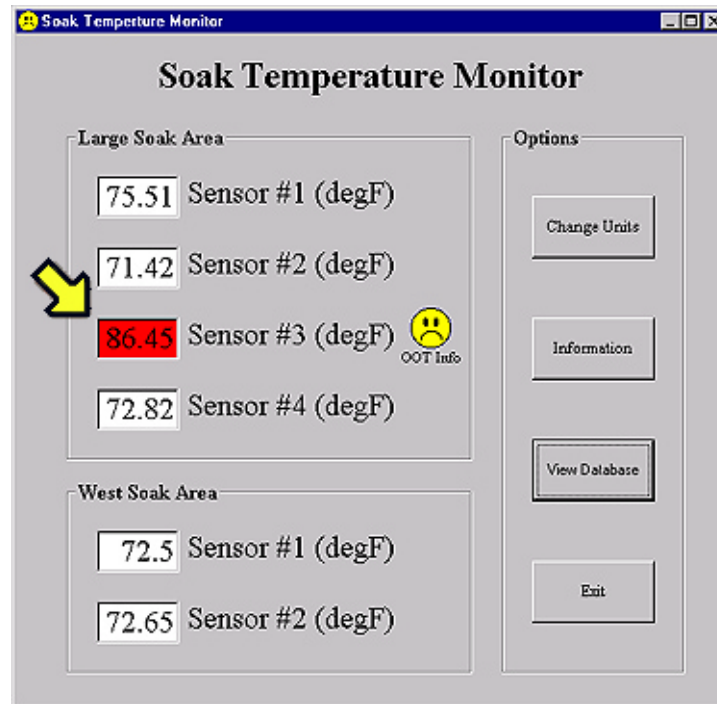

Figure 5
- 105 If the soak area temperature falls below 68 °F, or rises above 86 °F, the STM will show the out of tolerance sensor temperature in red and will include a warning icon. See the arrow in Figure 5.